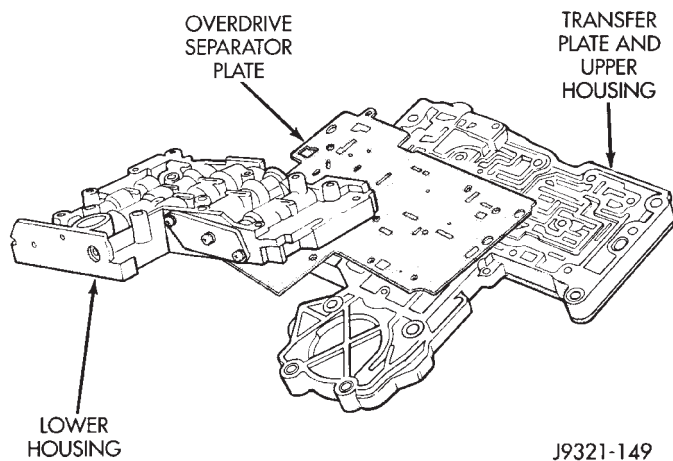

Fig. 106 Lower Housing Removal—46RH
(20) Remove lower housing and overdrive separator plate from transfer plate (Fig. 106).